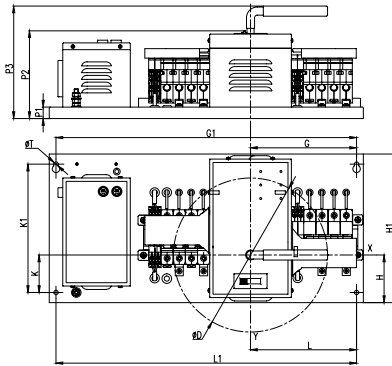
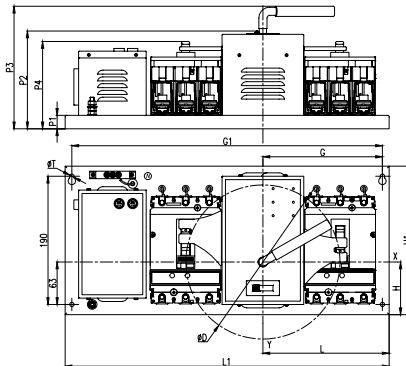

Fig. 2 ATNSX63
Fig. 3 ATNSX 100/ 160 / 250 / 400/ 630
- For form and dimension of ATNSX, please refer to the Fig.2 , Fig. 3 and Table 2